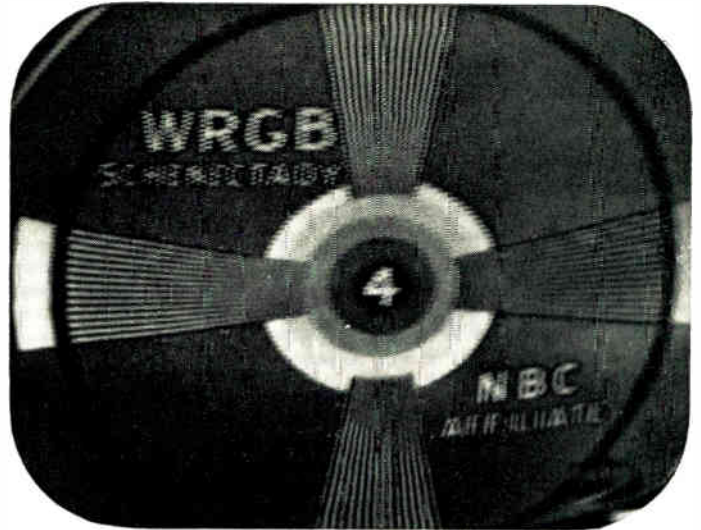

**Fig. 1. Clipper, A.F.C., Horizontal Oscillator and Output circuits used in a number of General Electric receivers.**
**Tele-Clue E-113.** The horizontal shifting shown here was due to an open capacitor C356 in Fig. 1. This capacitor feeds the horizontal sync pulses to V12. If this capacitor is open the control voltage ordinarily developed across resistor R356 and R357 and applied to the grid of V13A will obviously be incorrect.
**Tele-Clue E-114.** If capacitor C356 in Fig. 1 is leaky (10K) the picture will weave considerably but will sync with the horizontal blanking bar near the left side. The voltage at pins 1 and 5 of V12 will be considerably more positive than the normal 2.5 volts. Leakage across C357, C359, or C361 or a change in the value of R356 or R357 capacitors will also cause this same condition. If R359, R360 or C357 is open, the picture will only sync with either the horizontal blanking bar at the left as shown above or at the right as shown in Tele-Clue E-115.
**Tele-Clue E-115.** This condition was caused by an open capacitor C358 in Fig. 1. The picture weaves horizontally and can only be stabilized with the horizontal blanking bar at the right as shown or with a number of horizontal lines tearing the picture as shown in Tele-Clue E-116. A similar type defect will also appear if R359, R360 or C357 is open.
**Tele-Clue E-117.** If capacitor C365 in Fig. 1 becomes leaky (2K) the brightness and width are decreased and several white lines appear near the center of the pictures as shown above.
**Tele-Clue E-118.** A somewhat unusual condition appears when R366 in Fig. 1 is open. The picture looks as if every other frame in each field is displaced slightly to the left. A similar defect will also appear if C369 is leaky (1 meg).
**Tele-Clue E-119.** Leakage across capacitor C366 in Fig. 1 will cause a vertical white line to appear near the center of the picture and there is pulling at the top. This defect also causes a slight reduction in the width.
**Tele-Clue E-120.** Leakage across capacitor C368 (100K) in Fig. 1 will cause the width to be reduced with a slight foldover on the left side as shown in the above photograph.